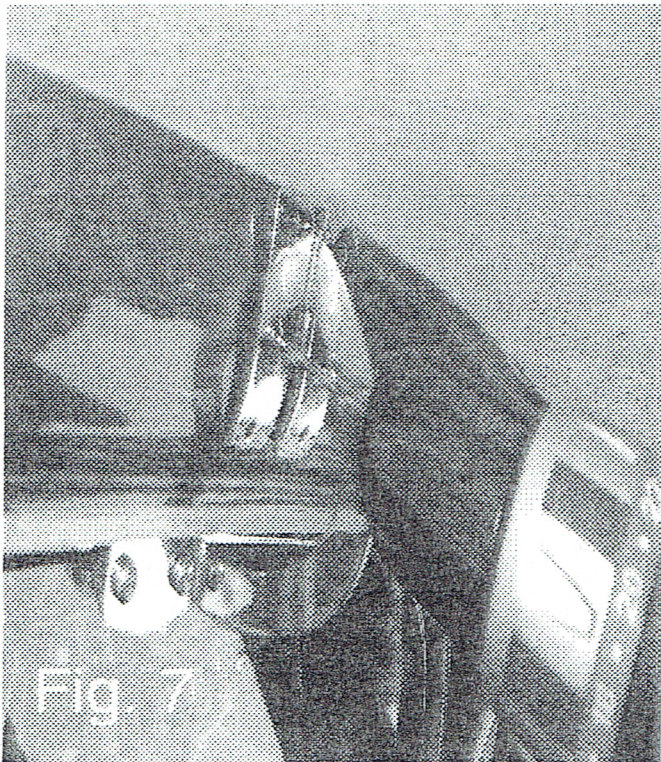

Fig. 7
Now you will need to drill the six mounting holes on each side for the hinge assemblies using a $\frac{1}{8}$ " drill bit. (See Fig.7) Attach the hinge assemblies using the #10 sheet metal screws. At this point you should remove the (4) 5mm button-head Allen screws from the hinge arms and take the window back out. Then install the body to frame seal. This seal is slightly longer than it needs to be. Make sure it is completely sealed on the body lip all the way around and cut about $\frac{1}{8}$ " longer to insure the ends touch each other. (Note: The seam is best at the bottom in the middle. Leaks have been noticed if the seam is on the top.)